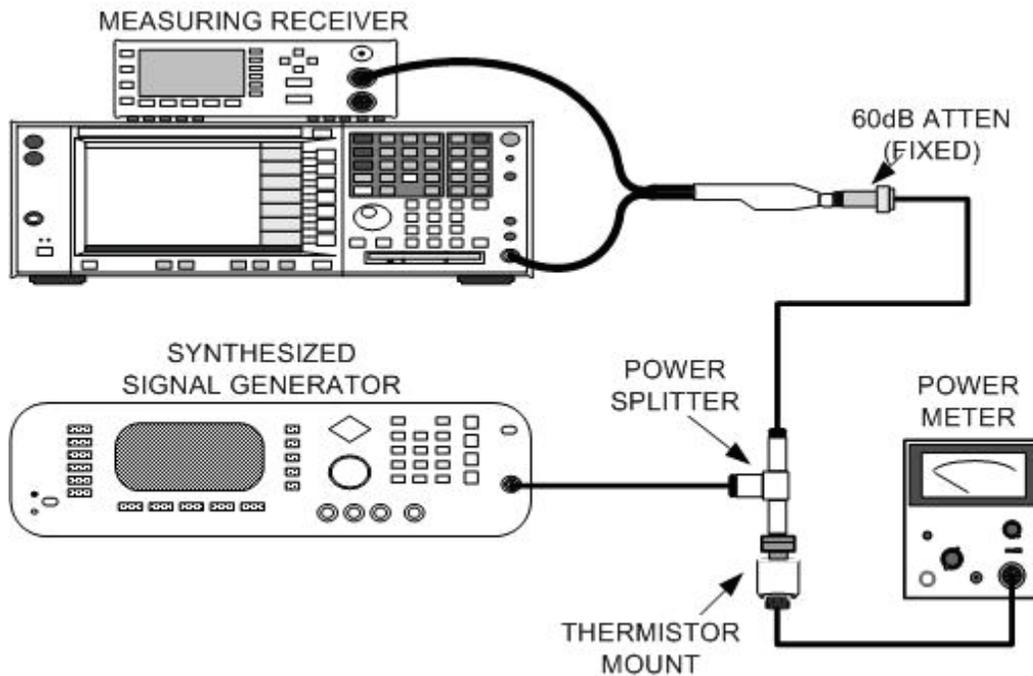

Figure 1. Receiver system reference – equipment setup.
e. Connect equipment as shown in figure 1.
(2) Adjust synthesized signal generator frequency controls to 11 GHz and adjust level output controls for -25 dBm indication on power meter. Record synthesized signal generator level indication.
(3) Connect equipment as shown in figure 1.